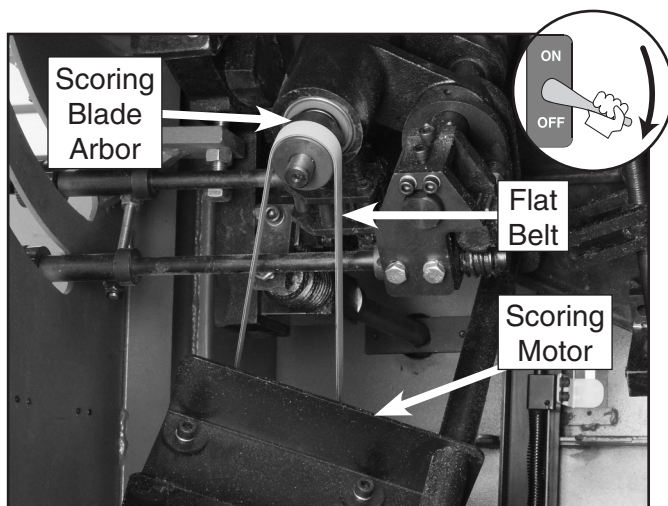

Figure 91. Replacing the scoring motor belt.
5. Place the flat belt on the scoring blade arbor as shown in **Figure 91**, lift the scoring motor, and slide the flat belt over the scoring motor pulley.